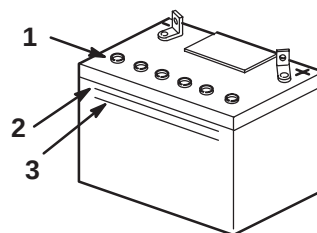

Figure 32
- Look at the side of the battery. The electrolyte must be up to the Upper line (Fig. 32). Do not allow the electrolyte to fall below the Lower line (Fig. 32).
- Remove the vent caps from the battery (Fig. 32).
- Slowly pour distilled water into each battery cell until the electrolyte level is up to the Upper line (Fig. 32) on the battery case.
5. Wait five to ten minutes after filling the battery cells. Add distilled water, if necessary, until the electrolyte level is up to the Upper line (Fig. 32) on the battery case.